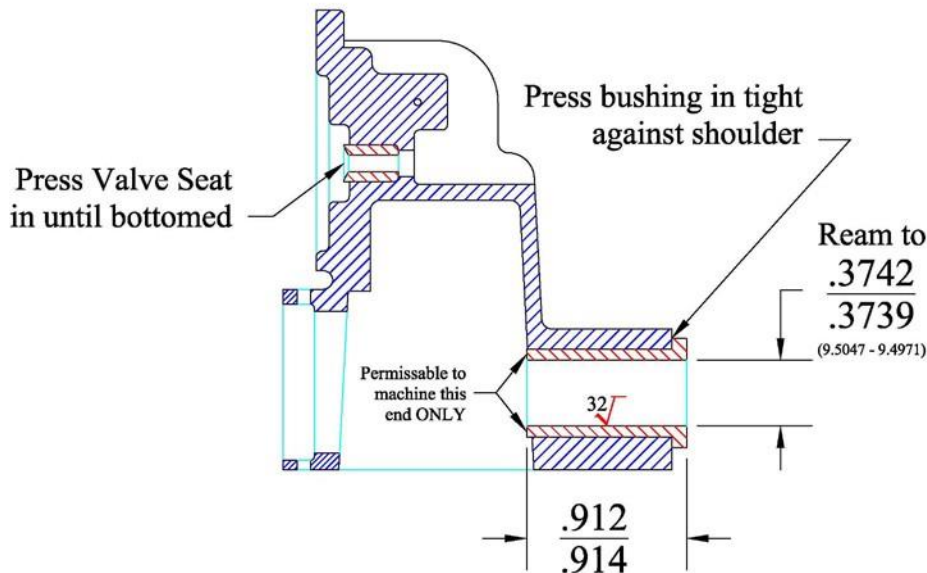

Figure 2
- b) Press the new bushing into place with T27268 or equivalent mandrel until the bushing shoulder is tight against body as shown in Figure 2. Replacement bushing must provide a .0005 - .002 inch (.0127 - .0510 mm) press fit. 2525170HT, 2525171HT & 2525172HT & 2525173HT are available if standard size 2525170HT bushing does not provide a suitable press fit.
- b) Press the new 2523280HT valve seat into cover assembly using a 3/8 inch diameter socket adapter and an arbor press until fully seated as shown in Figure 2 (special tooling for this operation is available - please contact HYE-Tech for more information). Replacement valve seat must provide a .0005 - .0020 inch (.0127 - .0510 mm) press fit. 2523281HT, 2523282HT & 2523283HT are available if standard size 2523280HT does not provide a suitable press fit.